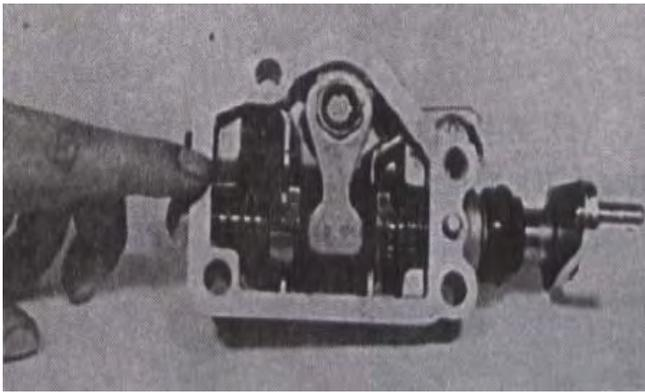

Fig 10-93
- (7) clean surface of gear shift lever ase to mate with transmission case and uniformly apply selant(SILICON KETONE HZ1213)(FIG.10-93)